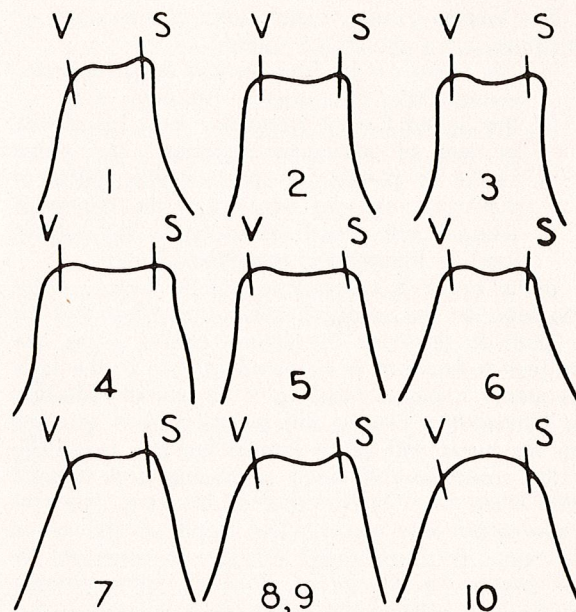

Fig. 4. Response curves for each of the 10 channels.
6. The picture carrier and sound carrier pips from the television calibrator should appear within the flat-topped portion of the response curve of each channel, at points indicated in Fig. 4. (These will vary with every receiver.)